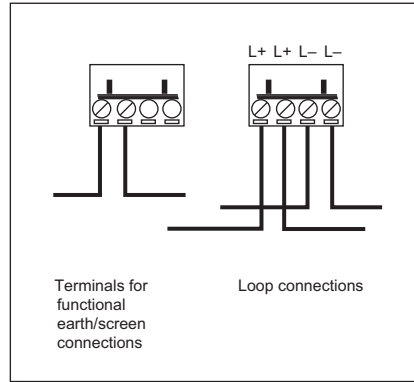

Fig 2 Terminal block connections
2. Run the cables from the loop into the backbox and connect them to the terminal blocks as shown in **Fig 2**. Ensure that functional earth/screen continuity is maintained. Screens should be connected to the yellow terminal block marked 1–4 on the black PCB cover.
5. Unlock the small front cover by inserting the forked key and pushing it home. Remove key, slide the cover down and remove the deformable element. Connect the terminal blocks as shown in **Fig. 2**, secure the call point to the backbox and refit the deformable element as required. Finally, replace the front cover in the reverse order in which it was removed and push it up until it locks.